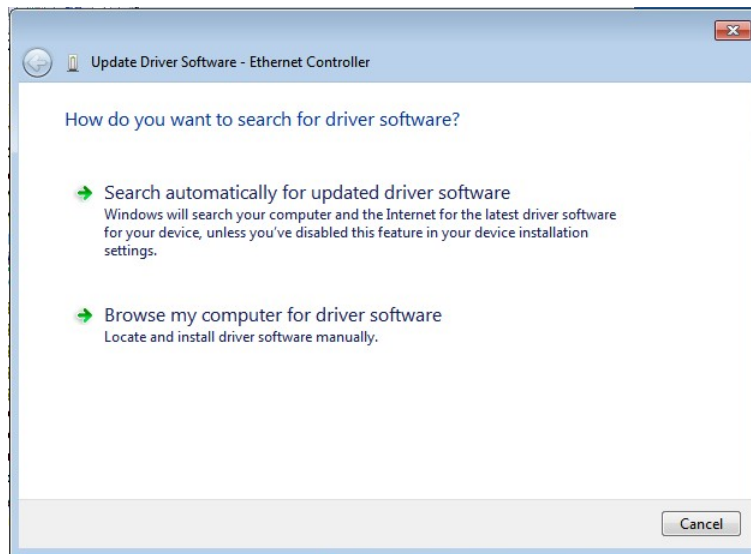

Figure 6-15: Update Driver Software Window
Step 7: The Update Driver Software Window appears (**Figure 6-15**).